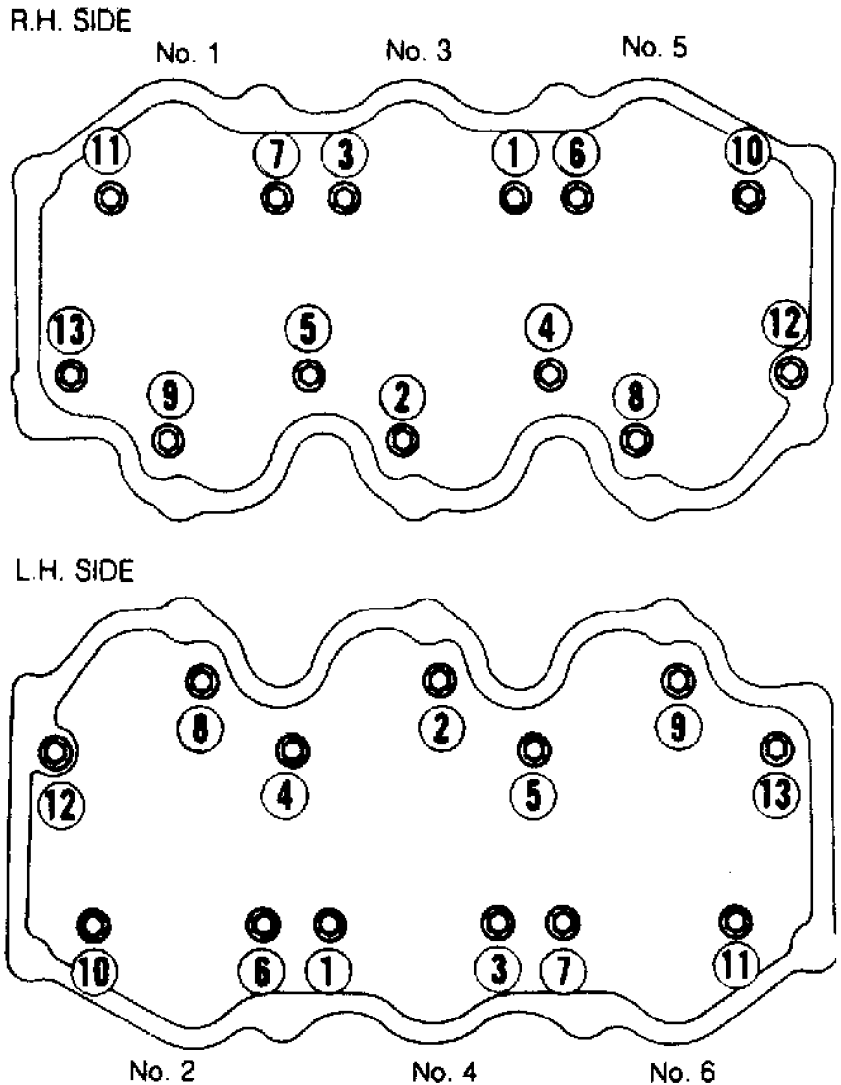

Fig. 7: Cylinder Head Bolt Tightening Sequence
4) Remove rocker arm covers. Remove alternator, compressor and related brackets. Remove cylinder head mounting bolts in reverse order of tightening sequence. See Fig. 7. Loosen bolts in 2 or 3 steps.
other head bolts. See Fig. 7.
2) Oil threads, and install head bolts. Tighten head bolts in 5 steps. See Fig. 7. See TORQUE SPECIFICATIONS TABLE at end of article. Install timing belt. See TIMING BELT under REMOVAL & INSTALLATION. To complete installation, reverse removal procedure.